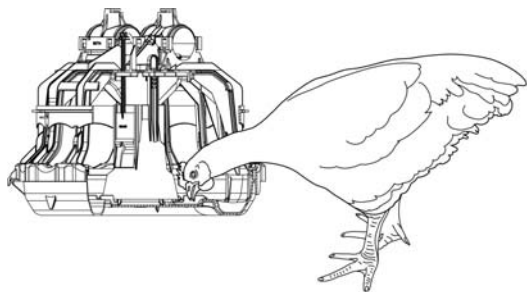

**Figure 65. Feed setting adjustment**
**The feeders should be set on the #2 feed position for pullet and hen applications. See Figure 65.**